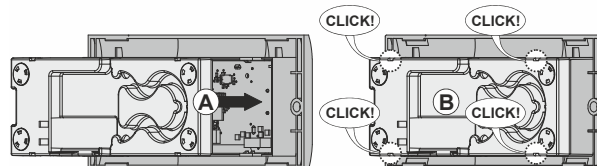

Fig. 5. Clicking cover back into place
3. Click the cover back into place (see Fig. 5).